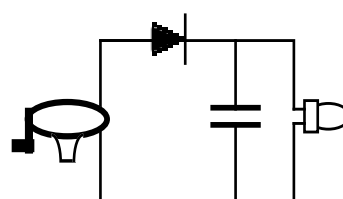
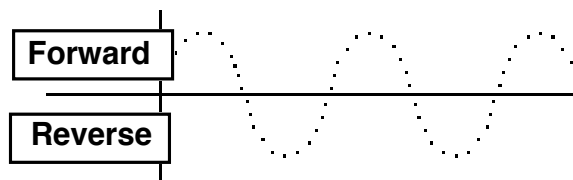

Figure 9.6c
Figure 9.7c
3. Connect the 25,000 μf capacitor as shown in Figure 9.6c and record your observations.
2. In Figure 9.7c, sketch the voltage across the LED for a rectifier circuit like that shown in Figure 9.6c with a diode and a capacitor added to “fill in the gaps”.